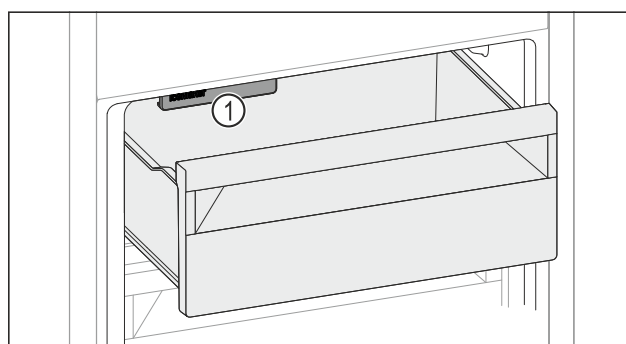

Fig. 114
- Pay attention to the IceMaker *Fig. 114 (1)*.